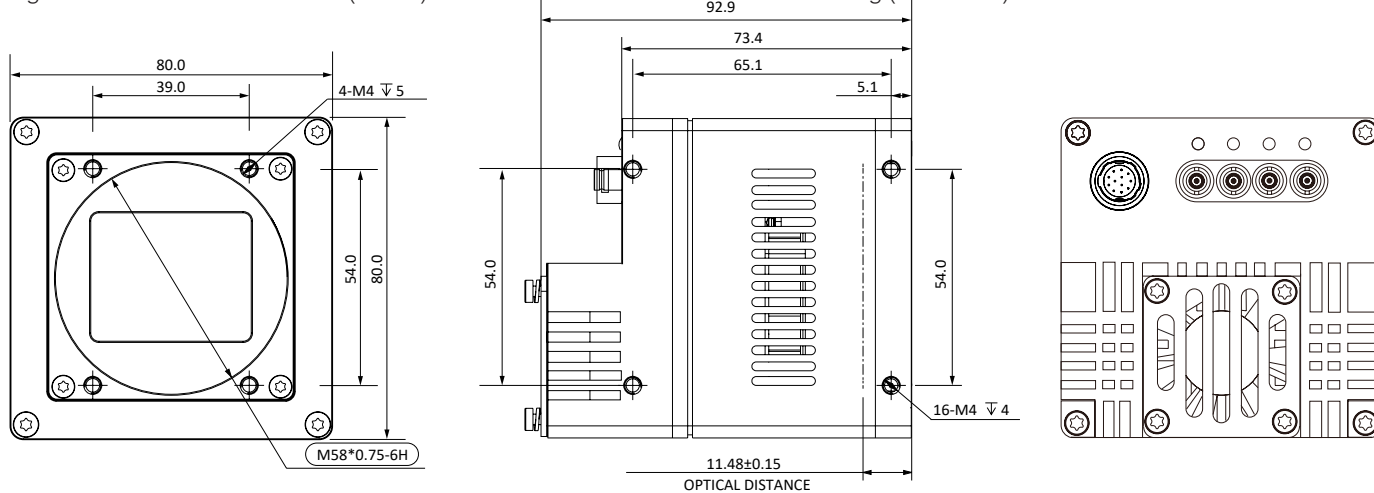

Fig. 1-10: Mechanical Dimensions (in mm) for Cameras with 80 \* 80 \* 73.4 housing (M58 interface).
- Fig. 1-10: Mechanical Dimensions (in mm) for Cameras with  $80 \times 80 \times 73.4$  housing (M58 interface).